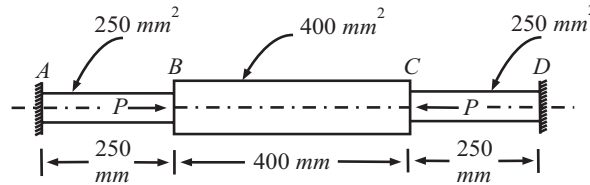

Fig 14.26
- Q. 41:** A rod ABCD rigidly fixed at the ends A and D is subjected to two equal and opposite forces $P = 25 \text{ kN}$ at B and C as shown in the fig 14.26 given below: Make calculations for the axial stresses in each section of the rod.